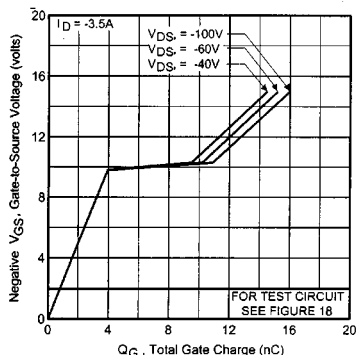

Fig. 11 — Typical Gate Charge Vs. Gate-to-Source Voltage
- ① Repetitive rating; pulse width limited by max. junction temperature (See Figure 11)
- ② Not Applicable
- ③ $I_{SD} \leq -3.5A$, $di/dt \leq 95A/\mu s$, $V_{DD} \leq V_{(BR)DSS}$, $T_J \leq 150^\circ\text{C}$
- ④ Pulse width $\leq 300 \mu s$; duty cycle $\leq 2\%$.